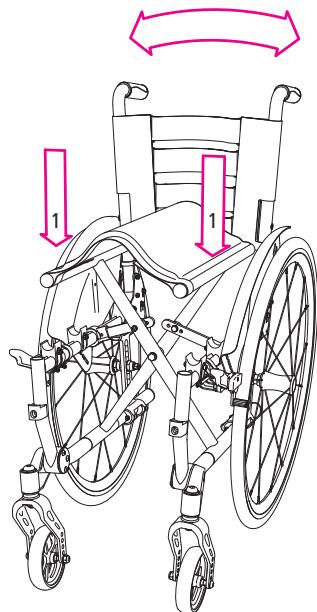

Fig. 3
1. Push the left and right seat tube downwards with your hands at the same time. The wheelchair will now unfold itself (1, Fig 3.).